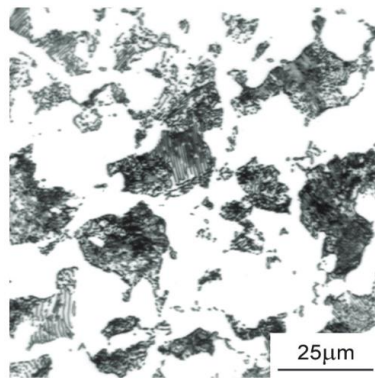

Fig. 3
4 (a) Figure 3 shows an image of a section of polished steel taken from a garden ornament.
- (iii) From Fig. 3 suggest how to estimate the *wt. % C* present in the steel and provide your estimate for this value. [5]